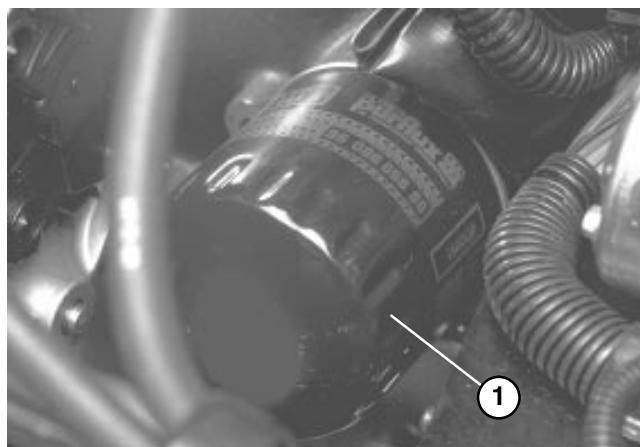

Figure 45
2. Remove oil filter (Fig. 45). Apply a light coat of clean oil to the new filter seal before screwing it on. DO NOT OVER-TIGHTEN.